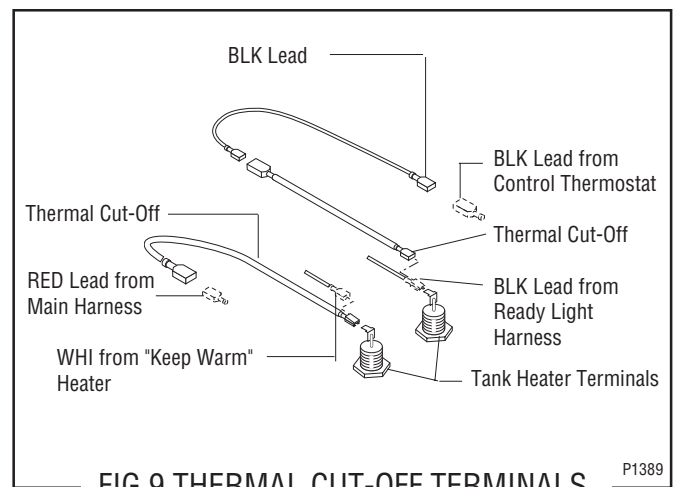

FIG. 9 THERMAL CUT-OFF TERMINALS
4. Refer to Fig. 9 when reconnecting wires.